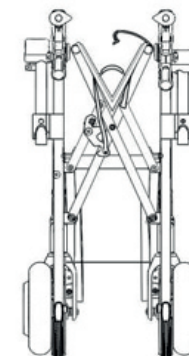

FIGURE 16
g. You will hear the safety clip lock in place when the chair is folded correctly and completely. (Figure 16)